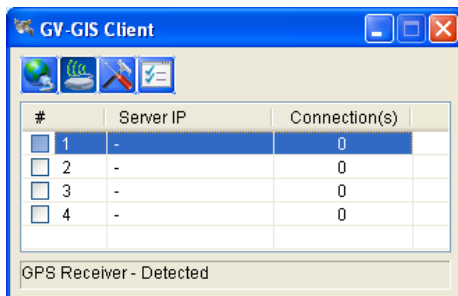

Figure 11-90
2. Click the  button on the GV-GIS Client window (Figure 11-90). This dialog box appears.
- Click the  button on the GV-GIS Client window (Figure 11-90). This dialog box appears.